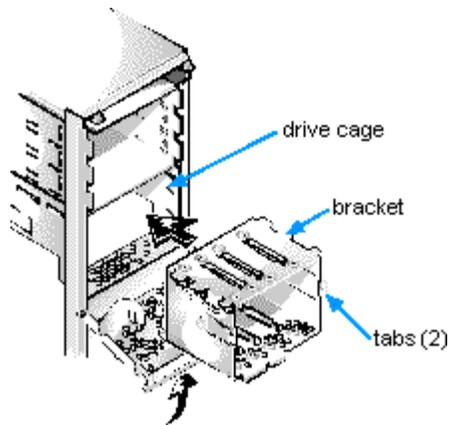

Figure 10-12. Inserting the Hard-Disk Drive Bracket Into the Chassis
9. Reinstall the hard-disk drive bracket into the chassis (see Figure 10-12).